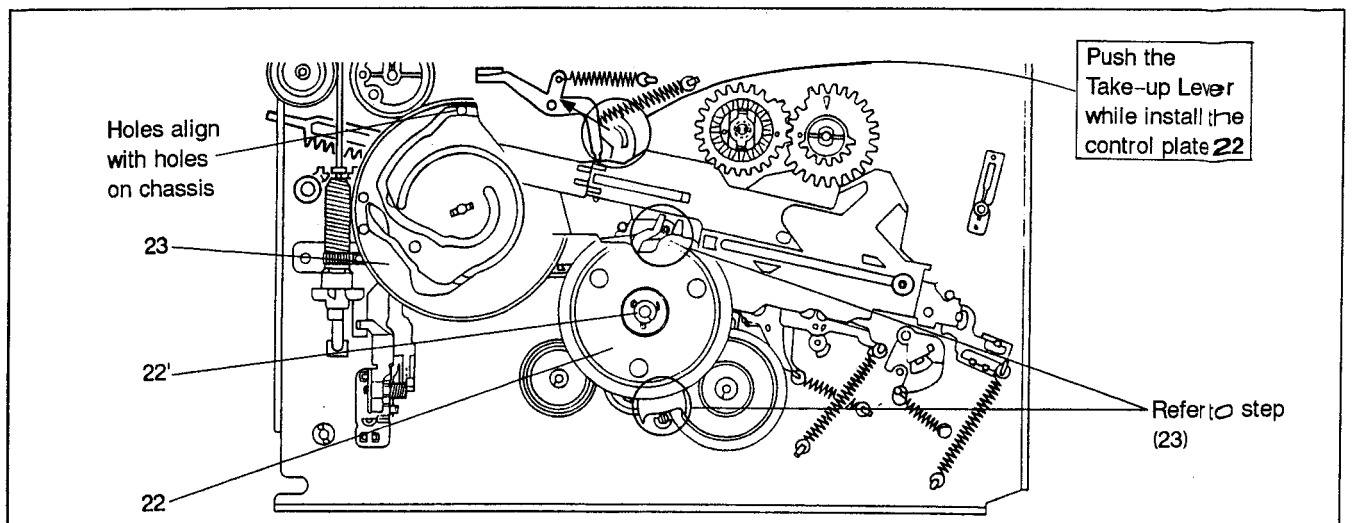

Fig. 2-4-13
- 22) Push the Idler Cancel Lever while install the Center Gear Unit and the slit washer (22') (see Fig. 2-4-13) with careful attention to the studs of the Idler Cancel Lever and the chassis so that both the studs are correctly set in the upper and the lower grooves of the Center Gear Unit respectively.